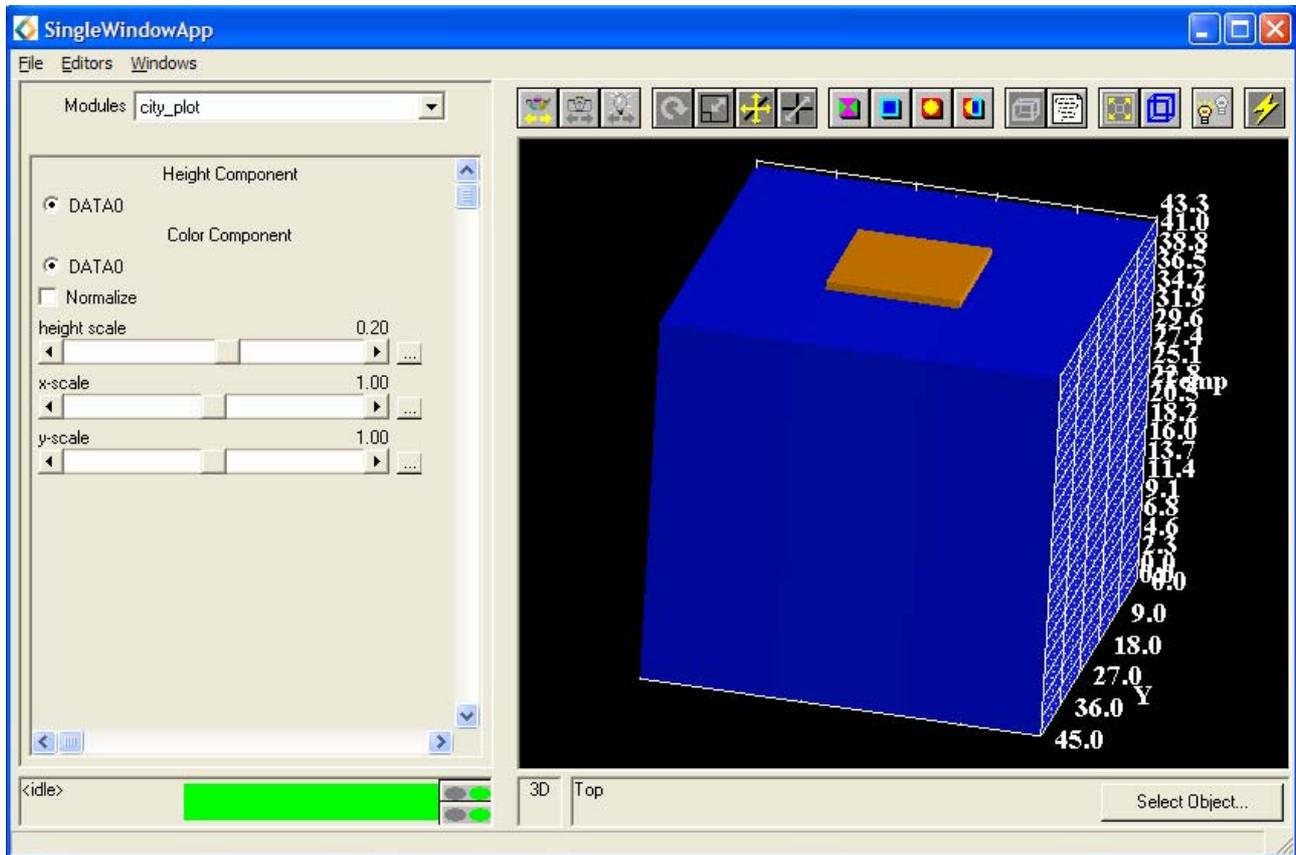

Figure 3.16: city\_plot Editor Panel and Transformed Image
- Select the appropriate icons from the Toolbar and use the mouse to transform the object so it appears as shown in Figure 3.16.
- Alter some of the scale values (as shown in Figure 3.16) using the sliders and observe the effects.